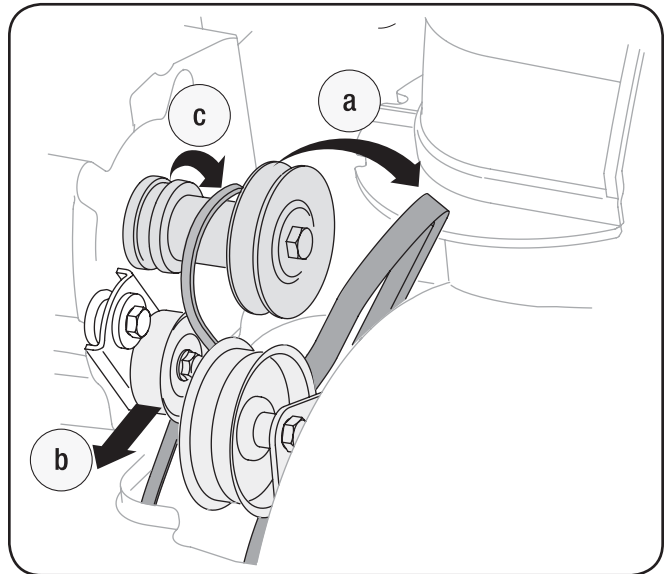

Figure 8-6
2. Remove the belt as follows. See Fig. 8-6: